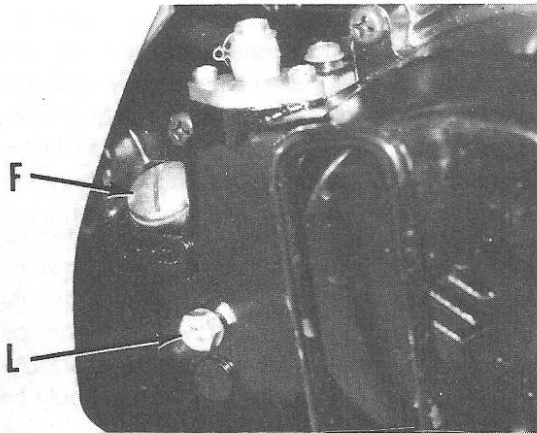

Fig. S1-1—Transmission is filled with oil through filler plug opening (F). Oil level should be maintained at level of plug opening (L).
40 motor oil. Oil is poured through fill plug (F—Fig. S1-1) opening in clutch cover and should be maintained at level of oil level plug (L) opening. Transmission is drained by removing plug in underside of crankcase. Dry capacity of cases is 550 mL (0.58 qt.). Refilling transmission if cases have not been disassembled requires only 500 mL (0.53 qt.) of oil as approximately 50 mL (0.053 qt.) will be retained by case castings. The transmission fluid should be changed after the first month of operation and every six months thereafter.